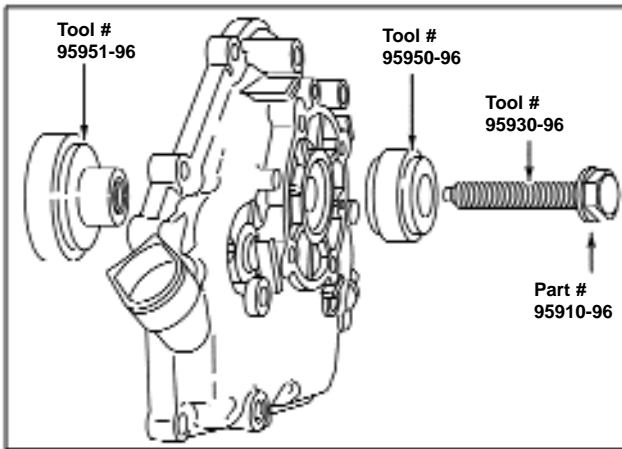

Figure 136 - Installing Bearing - PTO Side
5. Insert screw through pilot and thread into support. Tighten screw until ball bearing is seated, Figure 136.